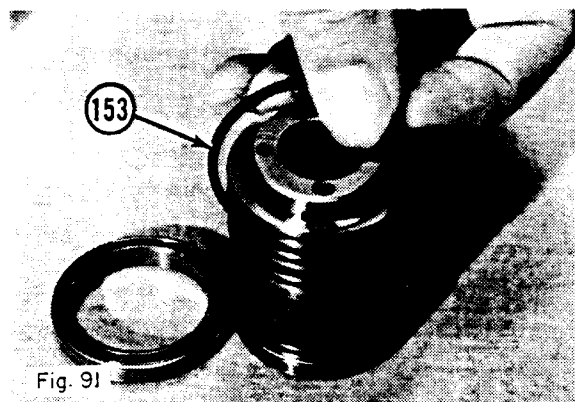

Fig. 91
To replace the backup rings (153), simply insert a scribe or a small screwdriver in the area where the split ring joins and lift it out as shown in Fig. 91.